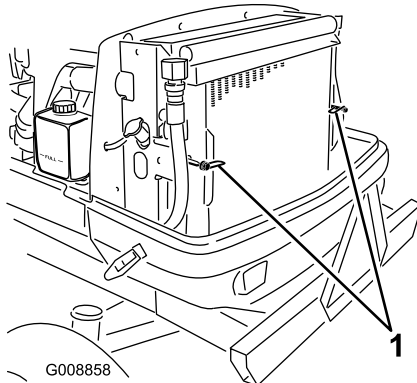

Figure 78
2. Rotate the latches (Figure 78) securing the oil cooler to the frame.